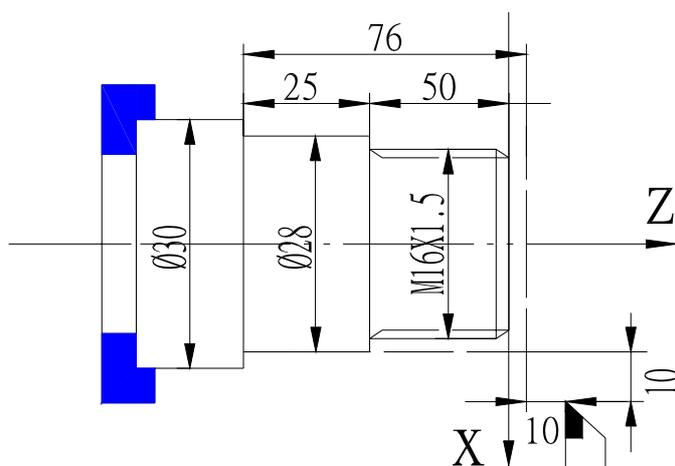

Fig. 34 Thread machining
**Example 2 :** See Fig. 34. Rod:  $\Phi 30 \times 100$  mm, No. 1 is roughing tool, No.3 is parting tool, No.4 for  $60^\circ$  threading tool.